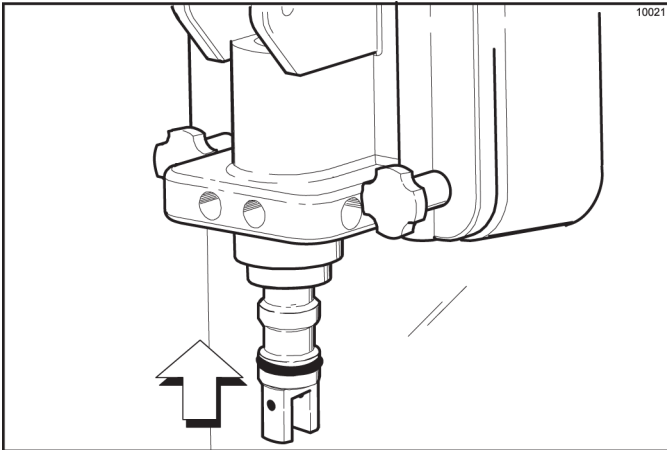

Figure 6-14
13. Insert the draw valve spinner assembly from the bottom until the slot in the draw valve which accepts the draw handle comes into view. (See Figure 6-14.)